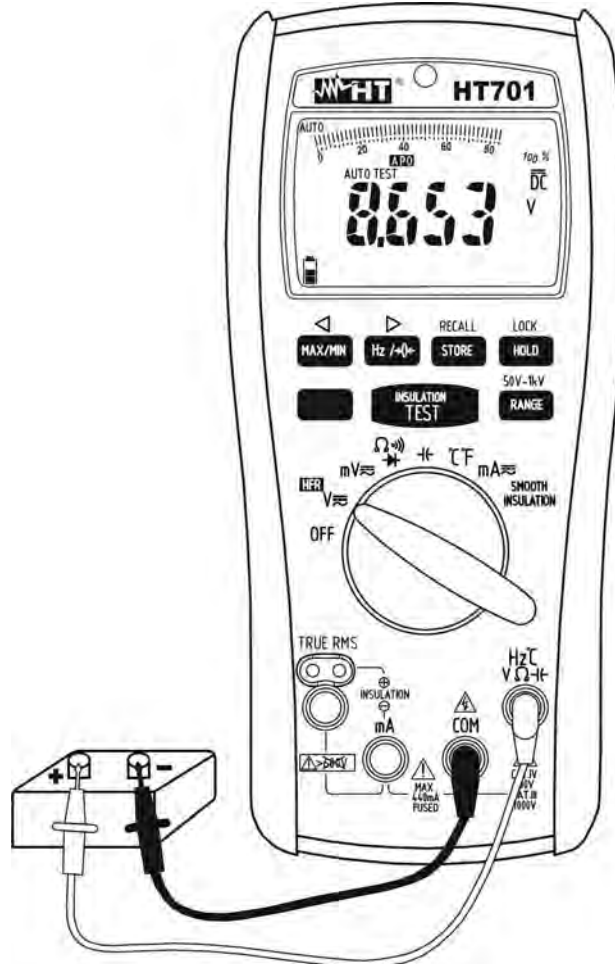

Fig. 2: Use of the instrument for DC voltage measurement
7. When symbol “-” appears on the instrument’s display, it means that voltage has the opposite direction with respect to the connection in Fig. 2